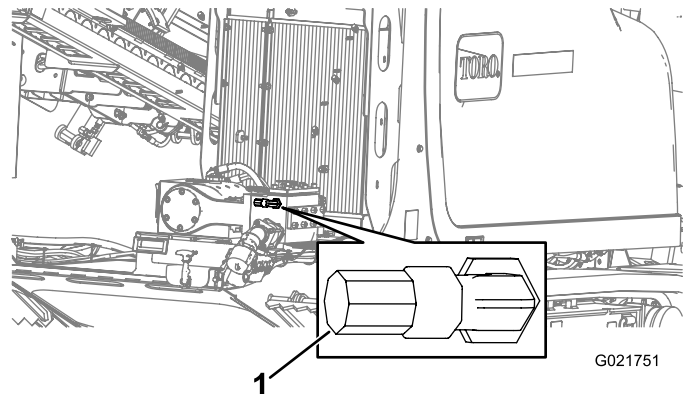

Figure 155
5. Connect the spray-hose attachment to the fitting (Figure 155).